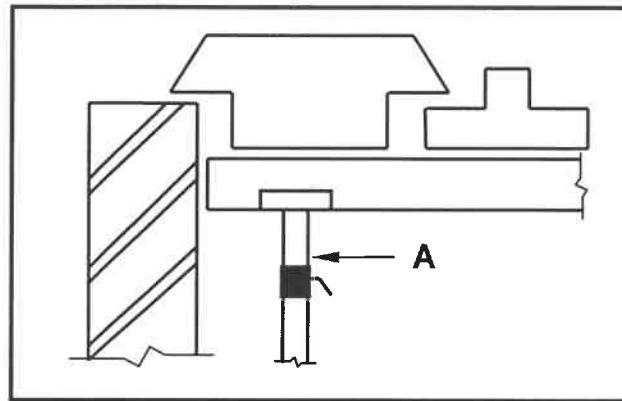

FIGURE 6.2
- (1)
6.2 FIGURE 6.2 below shows a faulty installation of a rib and block floor construction.